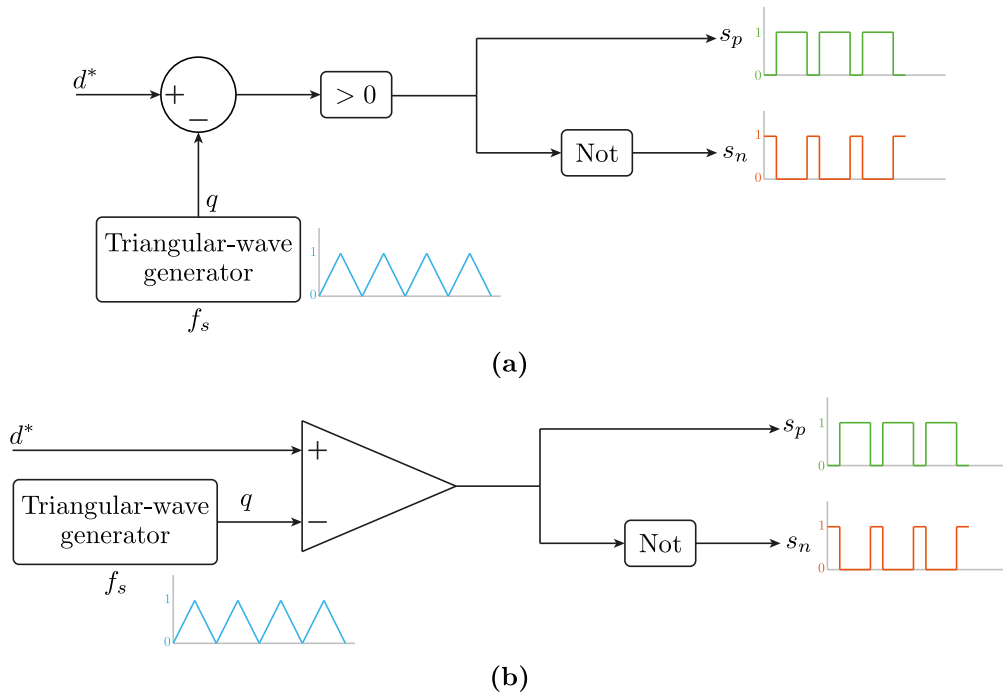

Figure 3: PWM Generators.
The input of this system is the reference duty cycle, d^* , and its output corresponds to the gate pulses s_p and s_n . Two simplified implementations of the PWM are shown in Fig. 3.
1. Implement **one** of the PWM generators shown in Fig. 3.